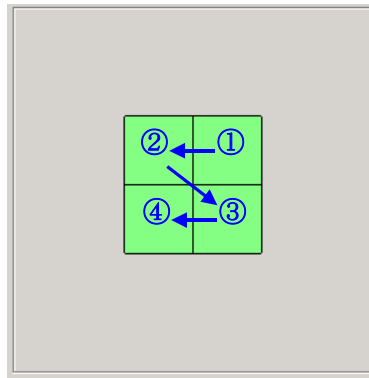

Fig. 3-132 Sequence of Image Capture and Image Check
- (a) Figure 3-132 shows the sequence of image capture.
- (a) Images are checked in the same sequence as for image capture. Refer to Fig. 3-132.
(7) Stop Button
(8) Position Display Area